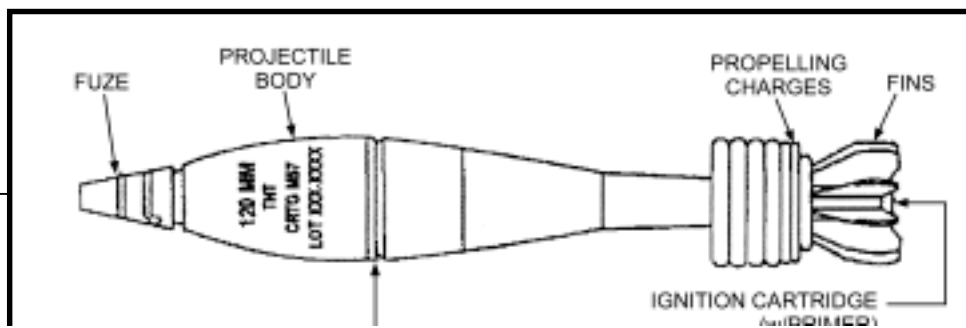

Figure 7-9. M57 HE cartridge.
a. **M57 HE Cartridge (NDI)** (Figure 7-9).
- (1) Type and use: High explosive fragmentation and blast.
- (2) Identification: Olive drab with yellow markings.
- (3) Components: M935 point detonating (PD) fuze.
- (4) Maximum range: 6,300 meters at charge 8; 7,200 meters at charge 10.
- (5) Remarks: Used against personnel (in open or in bunkers), light vehicles, and light bunkers; weight to 20 pounds (13.18 kilograms).